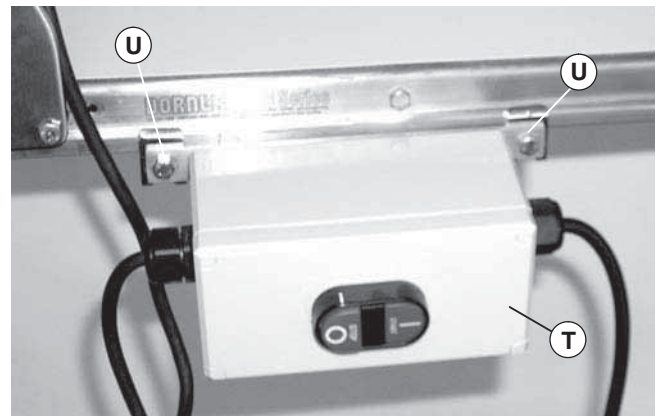

Figure 21
2. Attach motor starter (Figure 21, item T) with clips to conveyor. Tighten screws (U) to 92 in-lb (10.4 Nm).